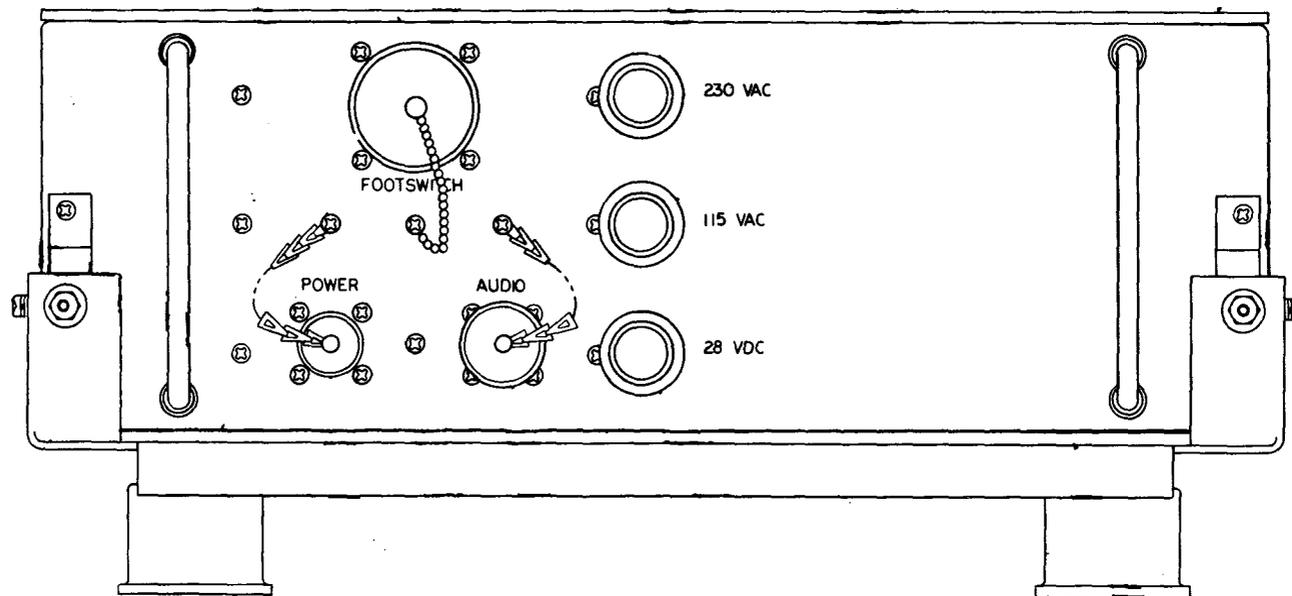

FIGURE 3-2
a. FootSwitch. The AN/UNH-17 can be remote operated by a footswitch (supplied) or a pushbutton control (not supplied) box. A cable with foot switch connected to the REMOTE connector on the rear of the unit permits three (3) remote (Repro-Neutral, Fast Reverse-Neutral) modes of operation.
b. Control Box. Provision has been made (refer to figure 3-2) for connection of a remote (not supplied) control box. Connection of a remote control box would permit remote activation of all function controls.